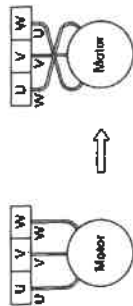

Fig. 7
- (2) Next, check direction of rotation. If discharge volume is low or unusual sounds are heard when the pump is operating, rotation has been reversed. When this happens, reverse two of the three wires (see Fig. 7).